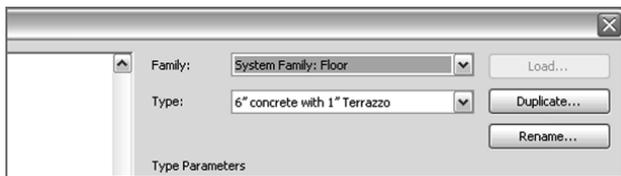

FIGURE 10.53 : You must add a floor at the Level 3 floor plan for the stairs to have a landing.
5. Select the 6" (152 mm) Concrete With 1" (25 mm) Terrazzo floor system from the Type drop-down list, as shown in Figure 10.53.